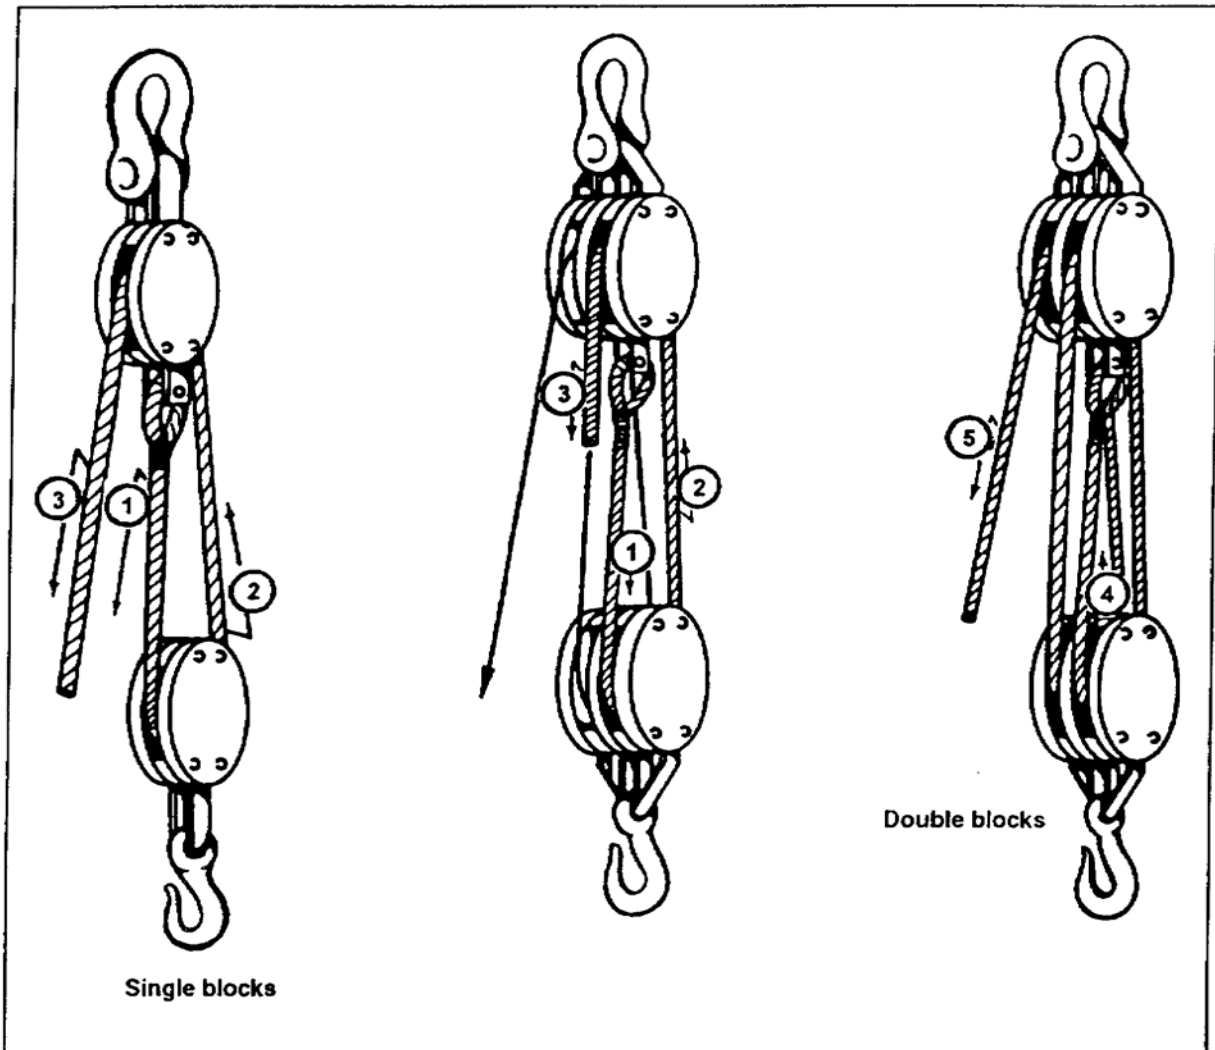

Figure 4-33. Reeving single and double blocks
a. Block and tackle, also referred to as falls, are one type of hoisting equipment used to raise and lower the platform of a swing-stage scaffold. Falls are made in various combinations of single, double, and triple blocks. The number of sheaves (pulleys) used designates the size of the block. As the number of sheaves is increased, the mechanical advantage is increased. To avoid getting dirt into the operating parts of the blocks, reeve a set of blocks by laying the blocks out on a clean and level surface other than the ground. Figure 4-33 shows the reeving and threading of single and double blocks.